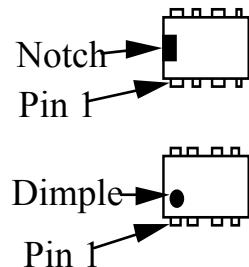

Figure 4-7
- Insert U1 into its socket, with the notched or dimpled end of the IC aligned with the notched end of the PC board outline. Figure 4-7 shows an 8-pin IC; U1 is similar but has 18 pins.) Press U1 down into the socket as far as it will go.
- Install the 8-pin ICs, U2 (MAX518), U3 (24LC04), and U5 (LM358) on the bottom side. Orient the notched or dimpled end of each IC with the notched end of its component outline (see Figure 4-7). Bend two leads outward slightly on the opposite side of the board to hold the devices in place, but do not solder yet.